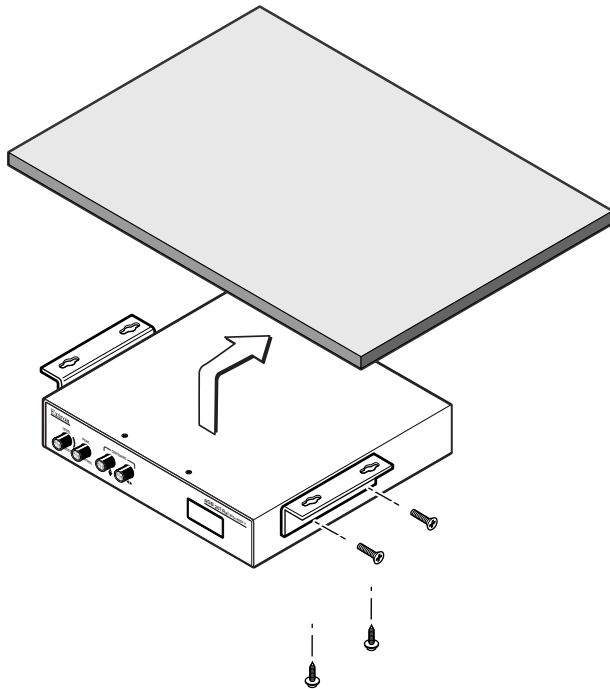

Figure 2-3 — Under-desk mounting
1. Secure the optional under-desk mounting brackets (part #70-077-01) to the interface with the six machine screws provided in the mounting kit (figure 2-3).